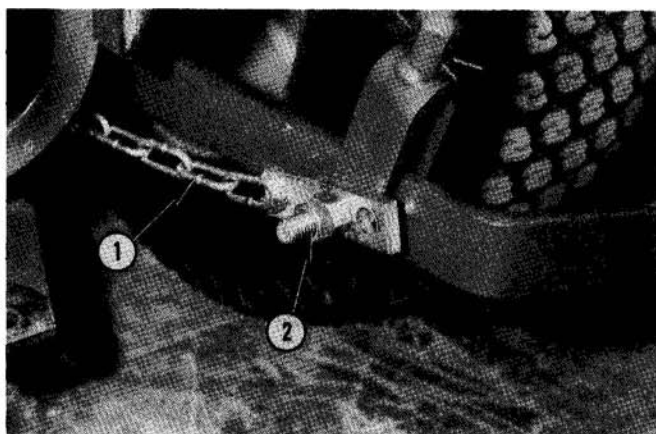

Fig. 4 — Check Chain
4. Position tractor lower link arm check chains in front hole as shown in Fig. 4.